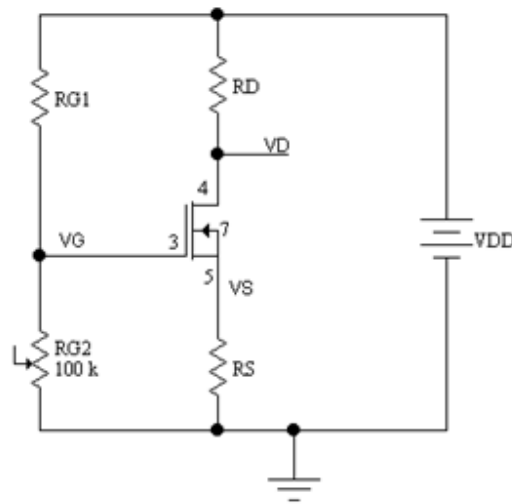

Figure 9.3: Biasing Circuit for Common-Source Amplifier
3. Use Figure 9.3, find  $V_D$ .